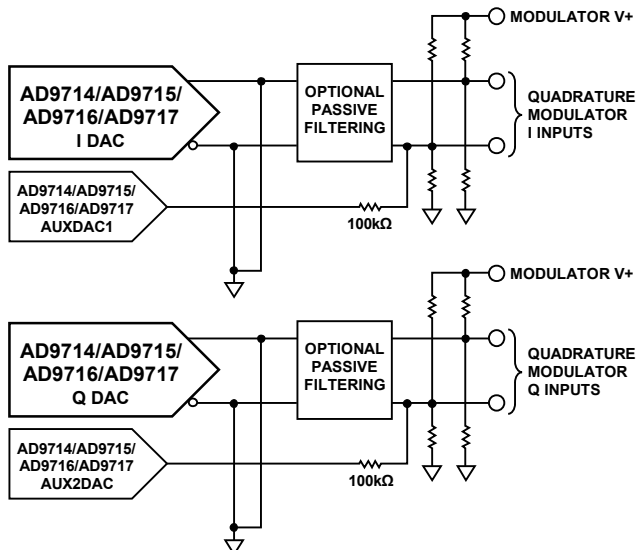
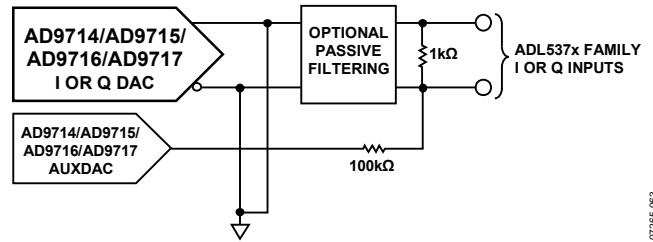

Figure 94. Typical Use of Auxiliary DACs and On-Chip Resistors for Direct Coupling to Quadrature Modulators
Figure 95. Typical Use of Auxiliary DACs When DC Coupling to Quadrature Modulator ADL537x Family
The auxiliary DACs can be used for local oscillator (LO) cancellation when the DAC output is followed by a quadrature modulator. This LO feedthrough is caused by the input referred dc offset voltage of the quadrature modulator (and the DAC output offset voltage mismatch) and can degrade system performance. Typical DAC-to-quadrature modulator interfaces are shown in Figure 94 and Figure 95. Often, the input common-mode voltage for the modulator is much higher than the output compliance range of the DAC, so that ac coupling or a dc level shift is necessary. If the required common-mode input voltage on the quadrature modulator matches that of the DAC, the dc blocking capacitors in Figure 94 can be removed. A low-pass or band-pass passive filter is recommended when spurious signals from the DAC (distortion and DAC images) at the quadrature modulator inputs can affect the system performance. Placing the filter at the location shown in Figure 94 and Figure 95 allows easy design of the filter, because the source and load impedances can easily be designed close to 500 Ω for a 2 mA full-scale output.